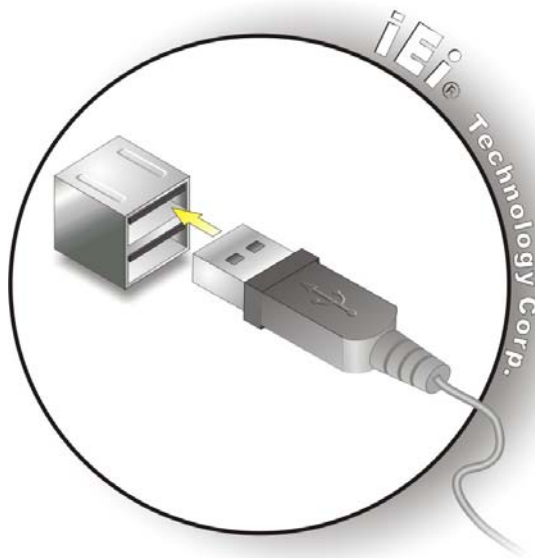

Figure 4-24: USB Device Connection
Step 2: **Align the connectors**. Align the USB device connector with one of the connectors on the I/O interface panel. See **Figure 4-24**.